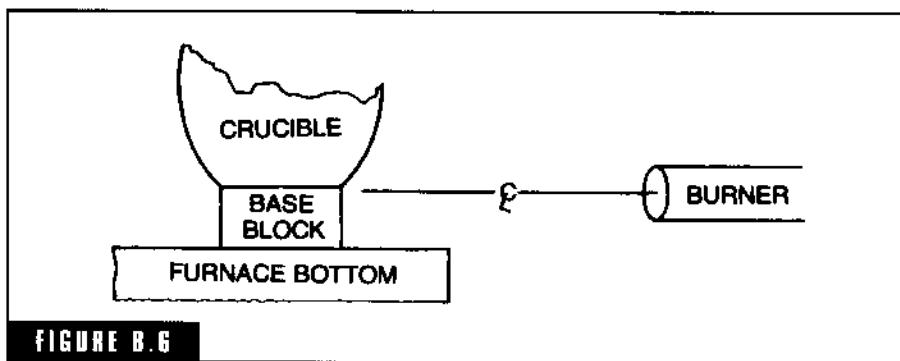

FIGURE B.6
**base block** Also known as a *pedestal block*, the base block is used to support the crucible in the furnace (Fig. B-6). The base block should be made of the same material as the crucible and be the same diameter as the bottom of the crucible it supports—9 inches in height or of such height that the centerline of the burner is at the junction of the crucible and block.